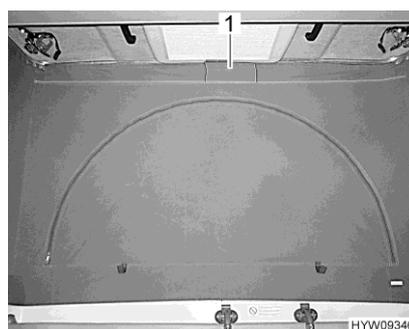

Fig. 59 Ventilation (closed)
- Release the Velcro of the fabric flap (Fig. 59,1) underneath the elevating roof. A mesh is installed behind the fabric flap as protection from insects.